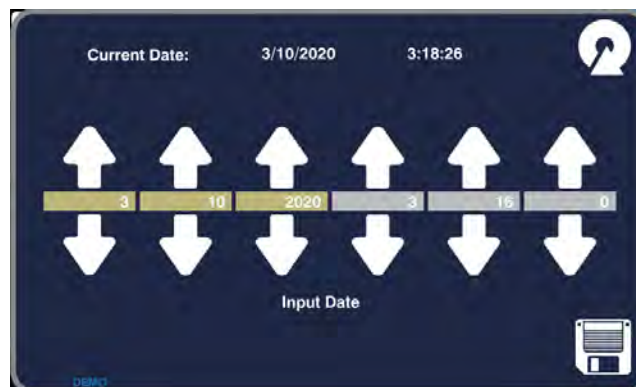

Figure 107. Set Time And Date Screen
- C. Enter Current Date password (see Table 3, page 36) and then touch ENTER button. Set Time And Date Screen (Figure 107) is displayed.